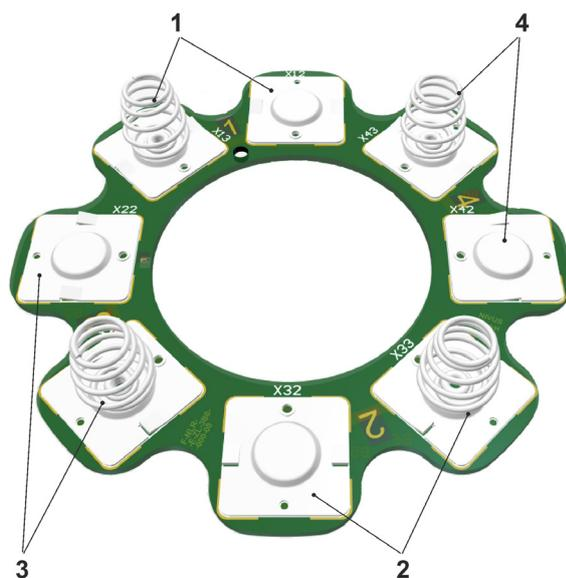

Fig. 37-2 Battery slots (circuit board in the enclosure)
4. Insert new batteries, observing the slot (Tab. 7) and installation direction (Fig. 37-2).
Depending on the number of batteries used, these must be inserted in defined slots and in the correct mounting direction. The slots are each labelled with a number between the two corresponding slots on the circuit board in the enclosure (Fig. 37-2).
Number of Batteries	Slot according to Fig. 37-2